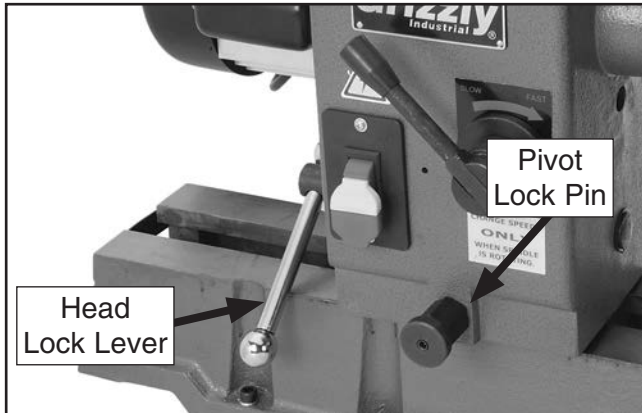
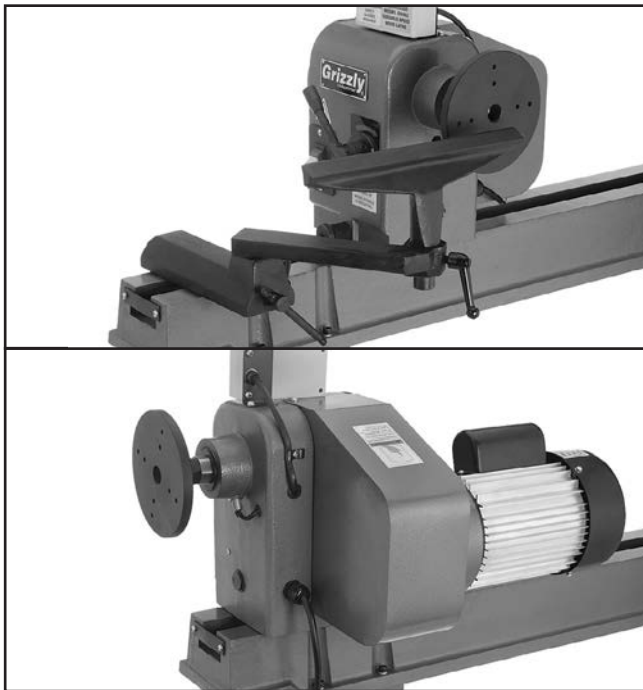

Figure 17. Pivot lock pin location.
Figure 18. Head set at 90° and 180°.
3. Pull the pivot lock pin out (see **Figure 17**) and pivot the headstock clockwise 90° or 180°, as shown in **Figure 18**.